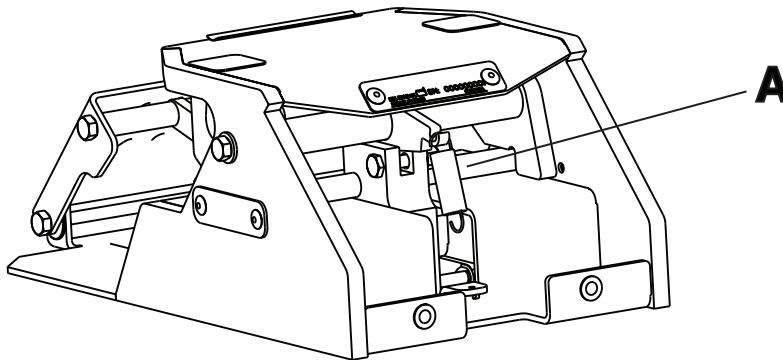

Figure 1 – Fastener lubrication
2. Spray Tri-Flow™ with Teflon® lubricant (6082-199-012) onto the area indicated below (A) (Figure 1).